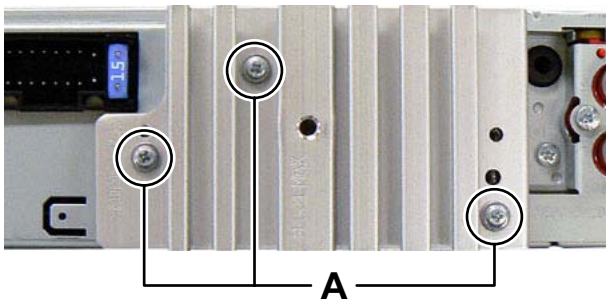

Fig.1
3.1.1 Removing the bottom chassis (See Fig.1, 2)
- (1) Remove the three screws **A** attaching the Heat sink. (See Fig.1)